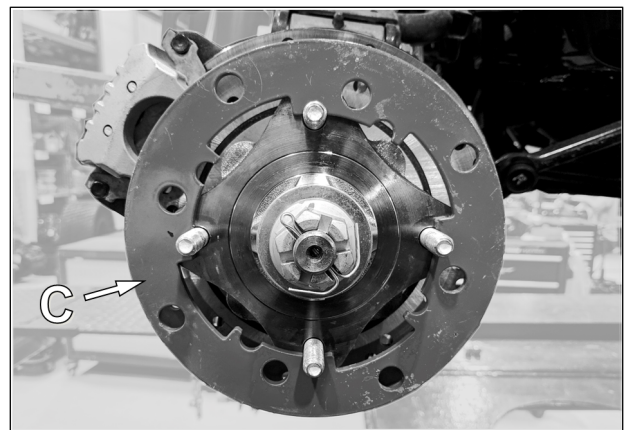

Fig. 9
9. Place and center wheel spacer (C) on wheel hub, using the threaded studs. See Fig. 9